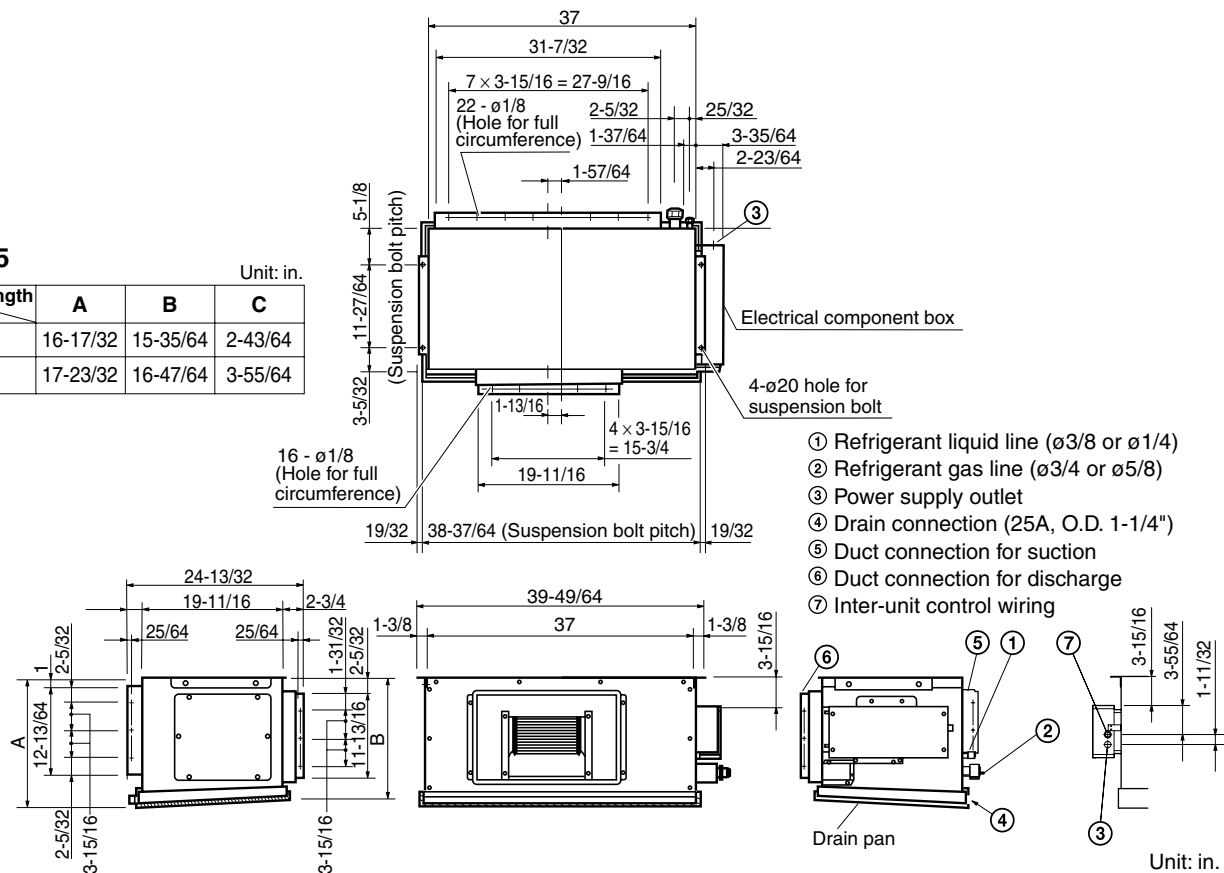

Fig. 3-101
- Fig. 3-101 and Table 3-3 show the detailed dimensions of the indoor unit.